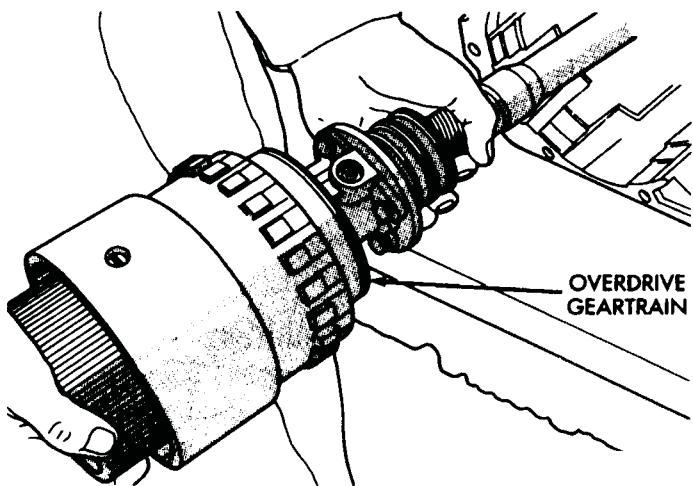

Fig. 11 Overdrive Geartrain Removal
- (11) Remove geartrain assembly from housing (Fig. 11). Set geartrain aside.